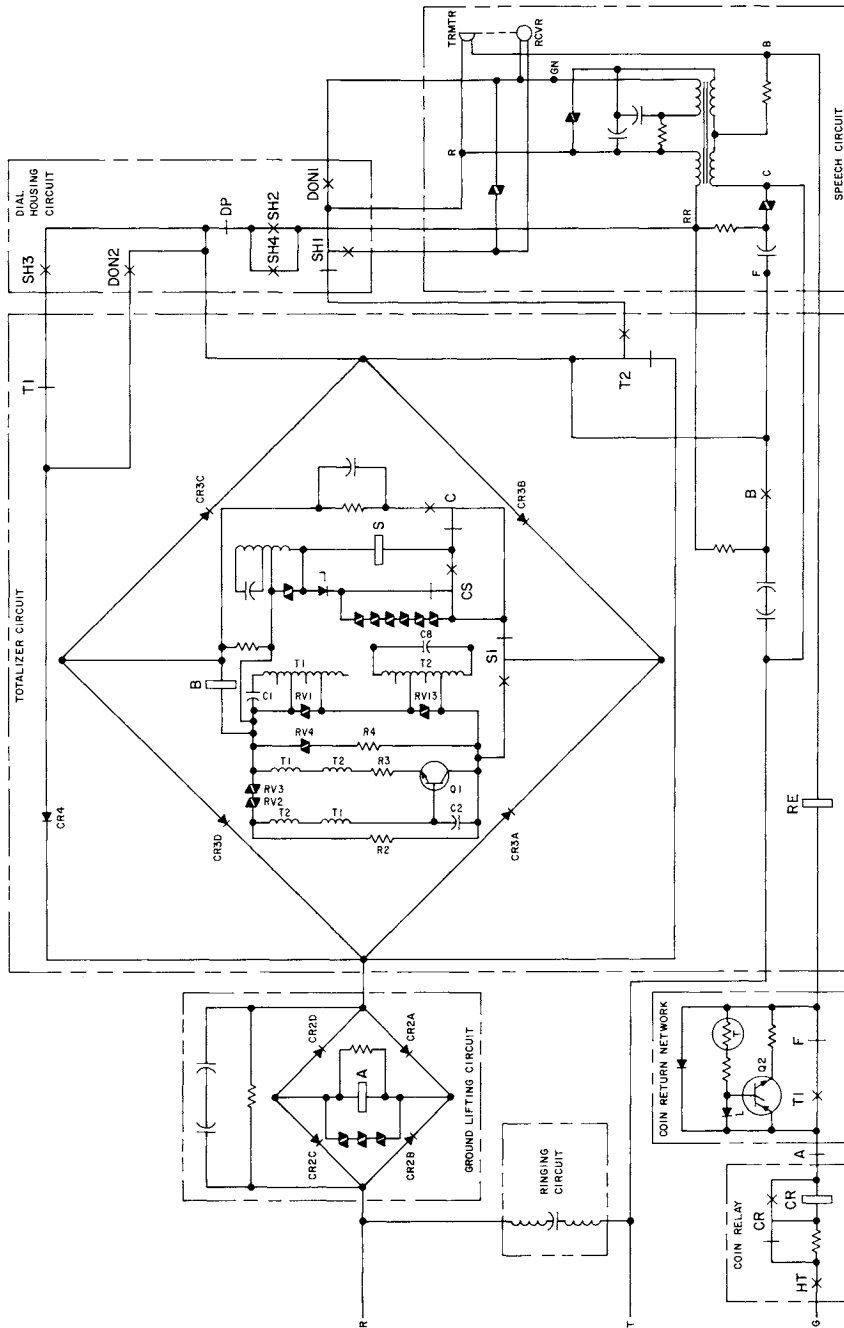

Fig. 9—1C1/2C1 Coin Telephone Set—Schematic (DTF Mode)
**G. Other Component Circuits (Fig. 9 through 12)**
**2.21 Ground Lifting Circuit (Used in DTF only) (Fig. 9 and 10).**
**2.22 Coin Return Network (Used in DTF only) (Fig. 9 and 10).**
### **DIAL-TONE-FIRST SERVICE (Fig. 9 and 10)**